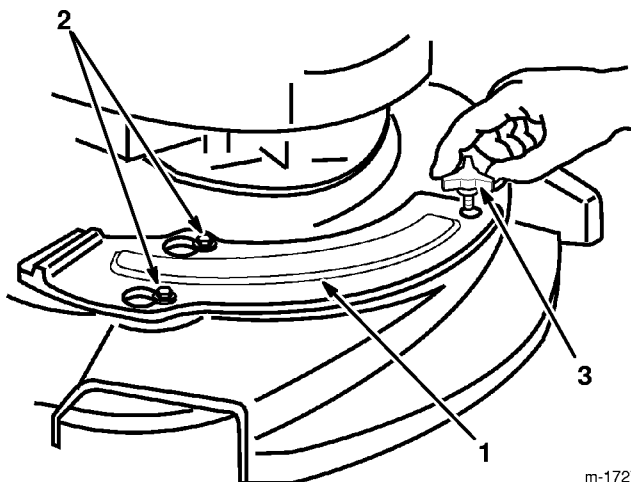

Figure 50
- Two shoulder bolts on the housing protrude through slotted holes in the mulch plate and do not have to be loosened or removed (Fig. 50). Mulch plate moves over the shoulder bolt heads.
- Secure with knob (Fig. 50).